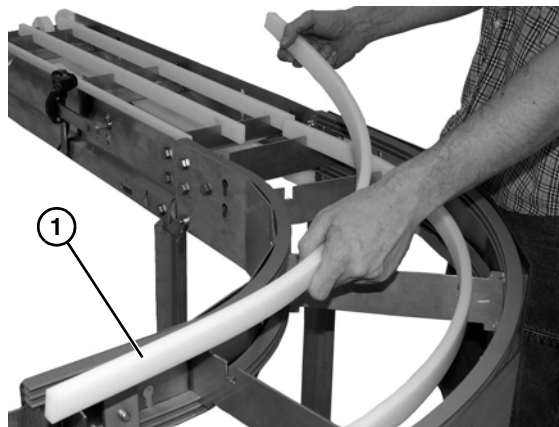

Figure 39
3. Remove curved wear strips from frame notches (**Figure 39, item 1**) when worn.